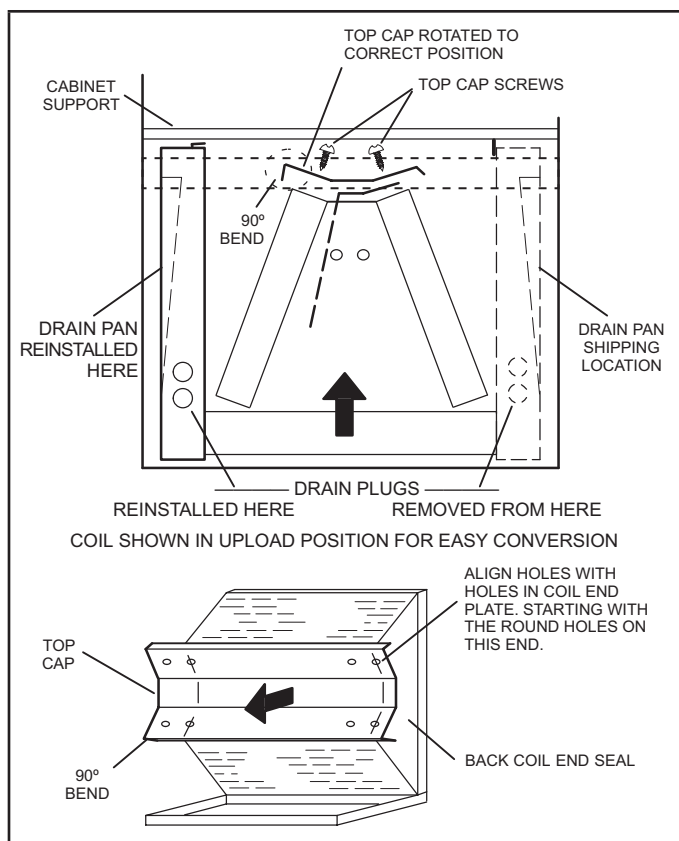

FIGURE 6. Field Modification for Left-Hand Discharge
- 7 - Rotate top cap 180° front-to-back and align with unused screw holes. Holes must align with front and back coil end plates. The top cap has a 45° bend on one side and a 90° bend on the other. **The 90° bend must be on the same side as the horizontal drain pan as illustrated in figure 6.**
NOTE - Horizontal runs must have an anti-siphon air vent (standpipe) installed ahead of the horizontal run. See figure 6. An extremely long horizontal run may require an oversized drain line to eliminate air traps.